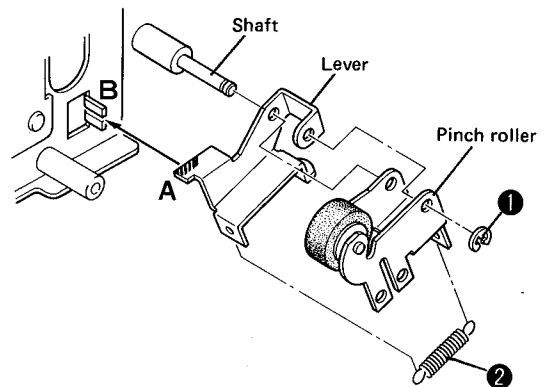

Fig. 10
1. Remove spring 2 and E-stop ring 1 in Fig. 10, then remove the pinch roller by pulling it forward.